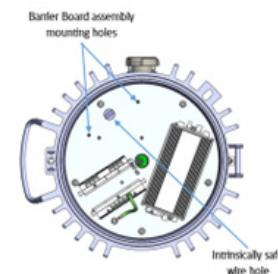

FIGURE 5
6. Install the Barrier Board Assembly (See Figure 4) by aligning the two mounting holes on the Barrier Board Assembly with the corresponding holes on mounting plate in the orientation shown in Figures 5 and 6.
7. Make sure the I.S. output wires labeled "I.S. (TO BULKHEAD)" and the connectors/wiring now connected feed down the "Intrinsically safe wire hole" shown in Figure 5 such that there is no excess wiring left in the driver compartment or pinched below the Barrier Board Assembly (See Figure 4 & 6). Secure the Barrier Board Assembly with the #8-32 screws provided (quantity-2) (See Figure 4). Tighten the screws to 20 in.-lb. (2.3 N-m). The Barrier Board Assembly housing edges should be flushed with mounting plate surface.